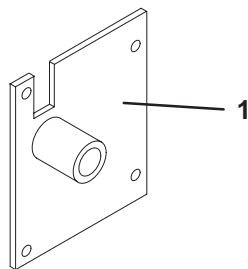

Figure 8
8. Using mounting holes in left side of frame, secure left hopper mounting bracket to frame with (4) 5/16 – 18 x 1-1/4" capscrews and locknuts (Fig. 8). Notch in bracket to fit around hood latch.